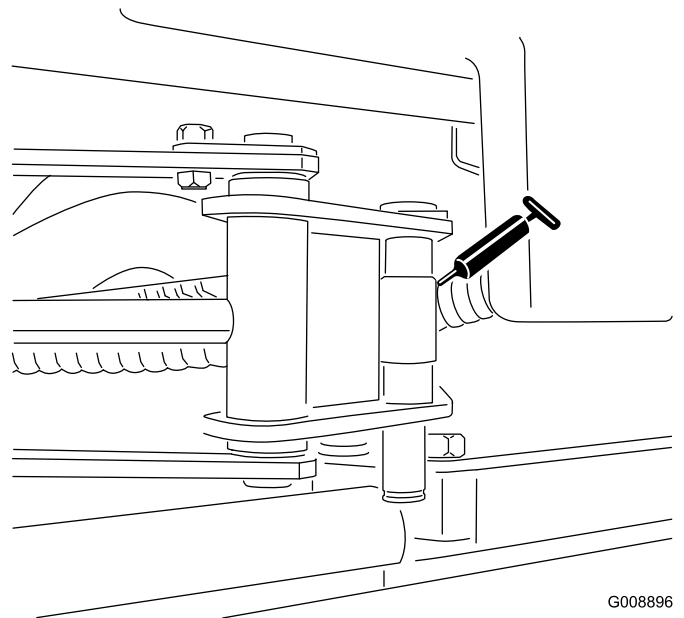

Figure 49
- SideWinder cylinder ends (2; model 03170 only) (Figure 49)